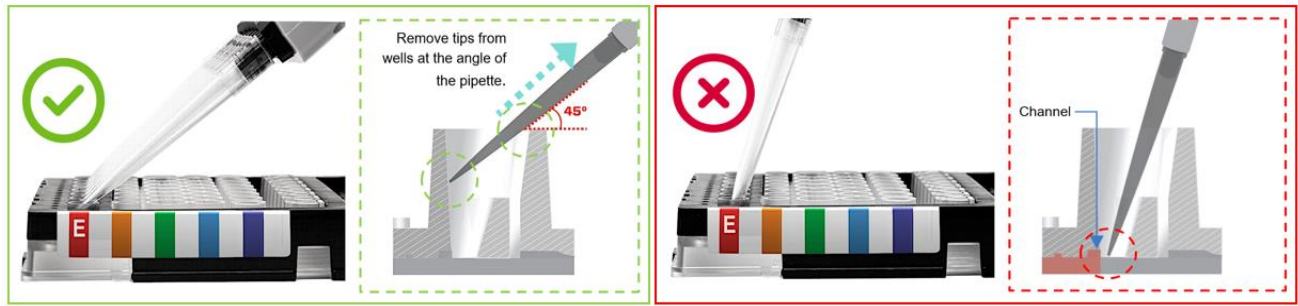
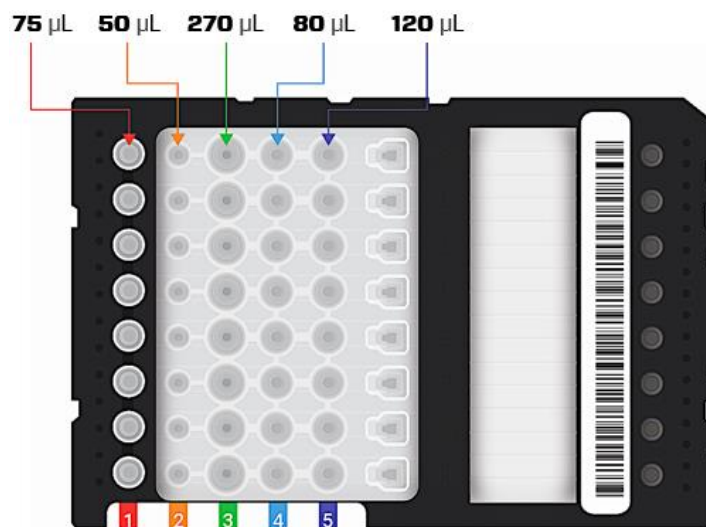

Figure 4. Proper (left) and improper (right) pipetting techniques for fluidic chip buffer wells.
Figure 5. G2 Tissue to DNA purification buffer dispense volumes.
5. Using a P200 multichannel pipette and the proper pipetting technique shown in **Figure 4**, add the appropriate volume of each purification buffer as shown on the screen (also see **Figure 5**), working left to right (1 to 5), to the fluidic chip.